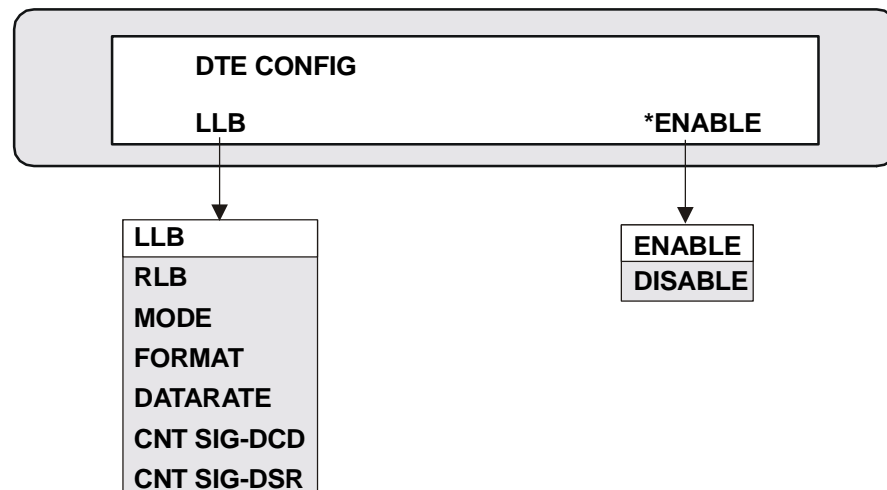

Figure 4-10. Configuring LLB Option
2. Press the SCROLL button until DTE CONFIG is displayed (see Figure 4-10).